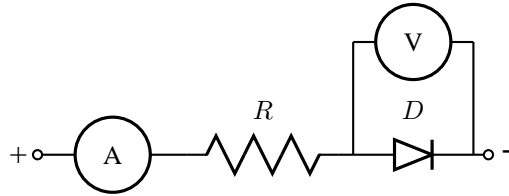
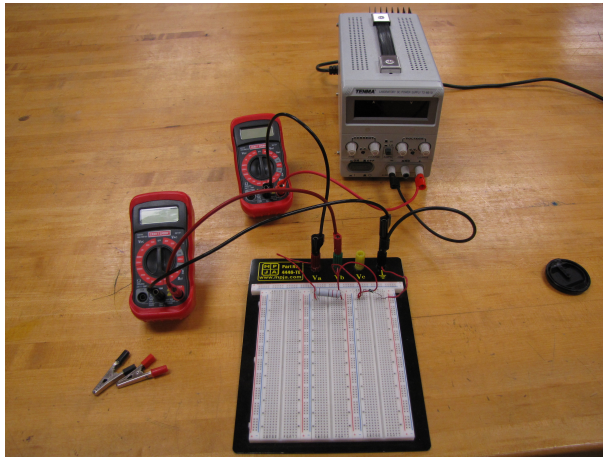

Figure 6: A schematic of the circuit for measuring voltages and currents of the diode.
Figure 7: The circuit corresponding to the schematic in in Fig. 6 assembled on the breadboard.
4. Connect the voltmeter in parallel with the diode as shown in Fig. 6. The circuit, as assembled is shown in Fig. 7. Obtain five different voltage and current readings for the diode. The voltage readings should range between 0 and approximately 0.36 V. Record your data in Table 1.